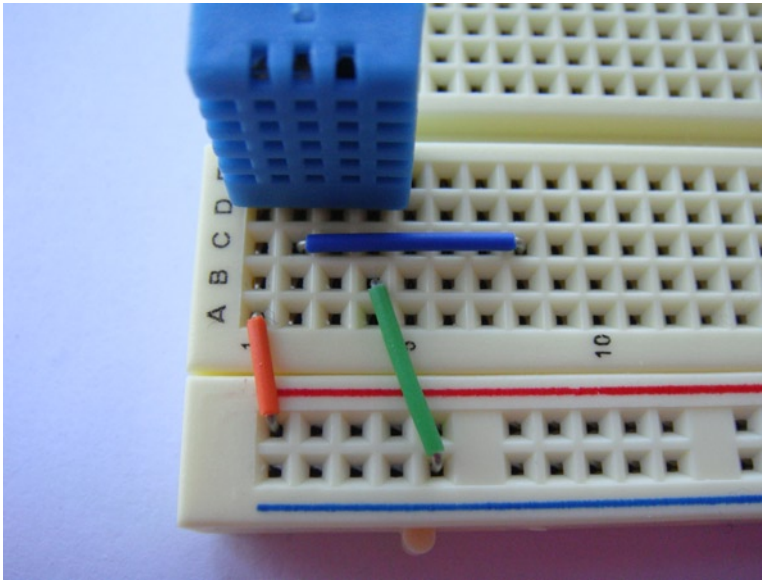

Figure 3-20. *Jumpers installed*
4. Also connect a jumper from pin 2 to a free row on the side of your breadboard. This allows a clear placement for the pull-up resistor. In Figure 3-20 you can see that my jumper is installed.